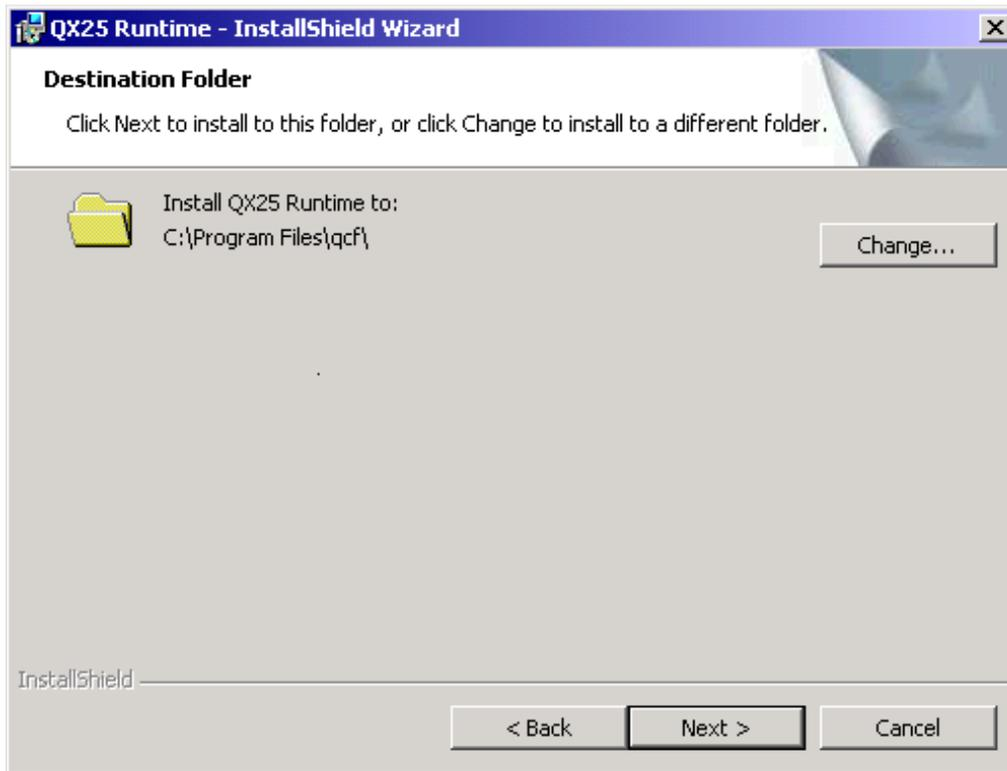

FIGURE 161. QX25 Runtime window
10. The InstallShield Wizard appears as in Figure 161.